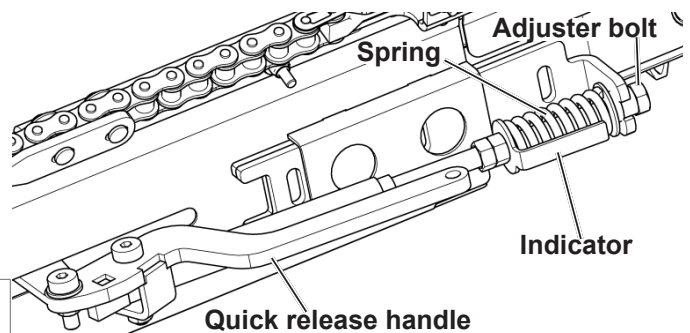

Fig. 98 - Deck Tensioning
1. Make sure that the quick release lever is in the open position prior to installing the draper on the deck. The location of the lever is shown in Fig. 98 on page 61.